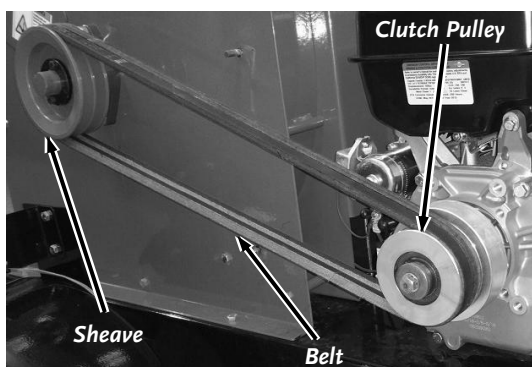

Figure 32
6. Remove the Belt (one Belt for Pro-475 or two for Pro XL-575) from the Clutch and Sheave (**Figure 32**).
2. Adjust the Belt Tensioner until the Belt is not sagging but not too tight (**Figure 32**).